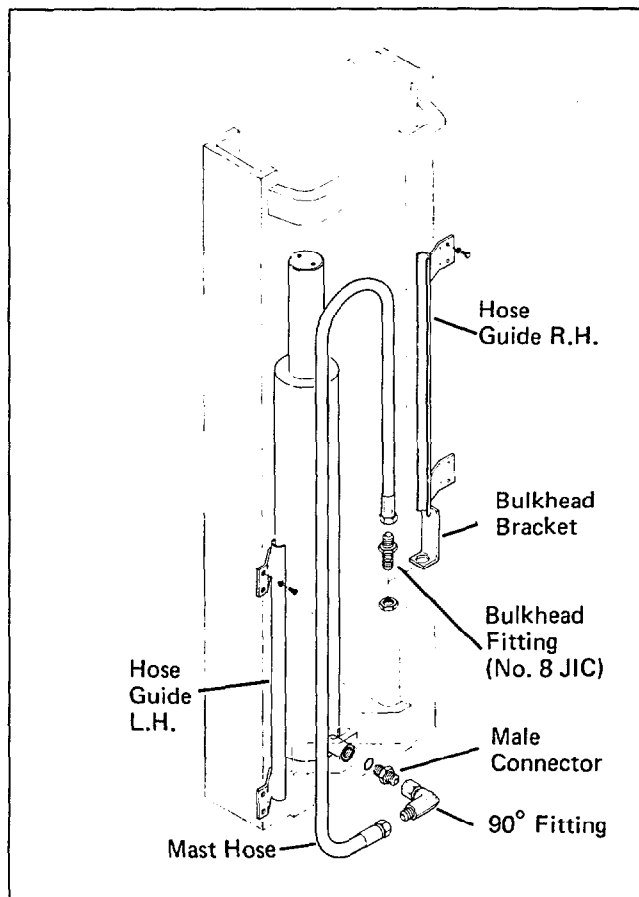

Figure 5-20 Mast Hosing
9. Loop the hose in the hose guides as shown in figure 5-20.